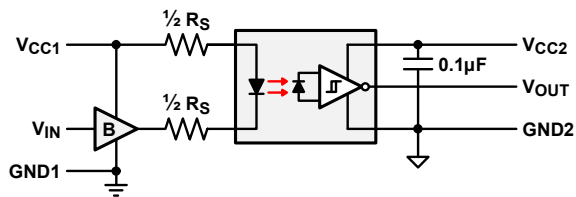
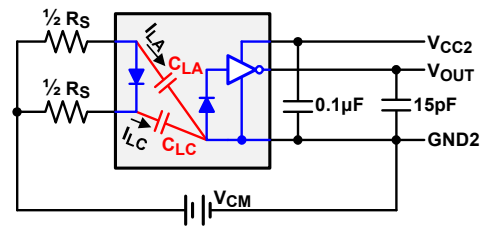

Figure 5. Recommended LED Drive Circuit
Figure 6. AC Equivalent Circuit
- Figure 5. Recommended LED Drive Circuit 3
- Figure 6. AC Equivalent Circuit 3
To reduce the risk of output glitches and thus improve common-mode rejection, it is necessary to balance the common-mode impedance at the LED anode and cathode. This is achieved by using two current setting resistors, each with a value of $R_S/2$. Figure 5 shows the recommended drive circuit for optimum CMR and Figure 6 shows its AC equivalent circuit.